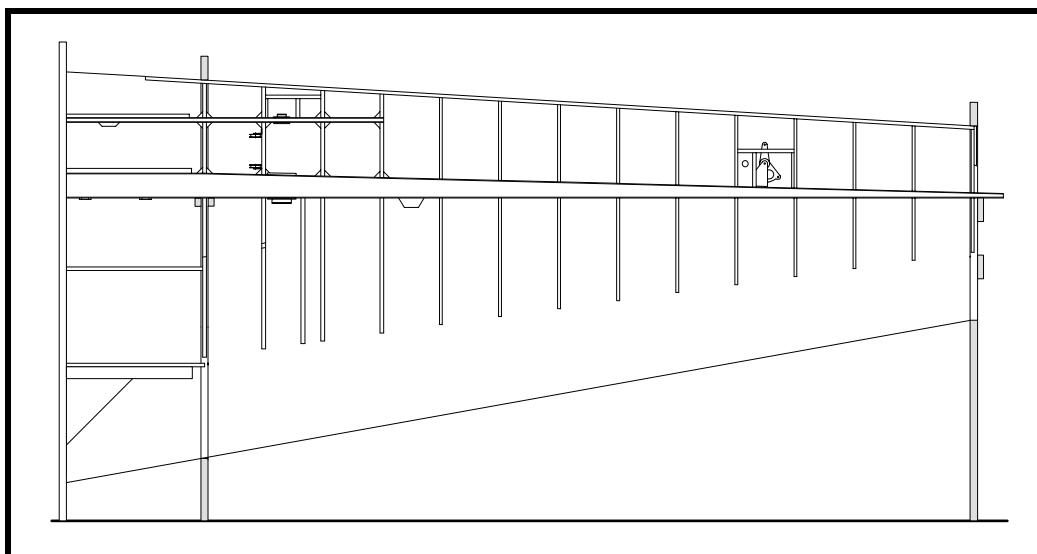

Figure 12
- ❑ Clamp all intermediate trailing edge ribs (the ribs between the main wing spar and the aft wing spar) to the main wing spar as shown in Figure 12. The Sta. 2-1/2 wing rib must be installed with the plywood face inboard.